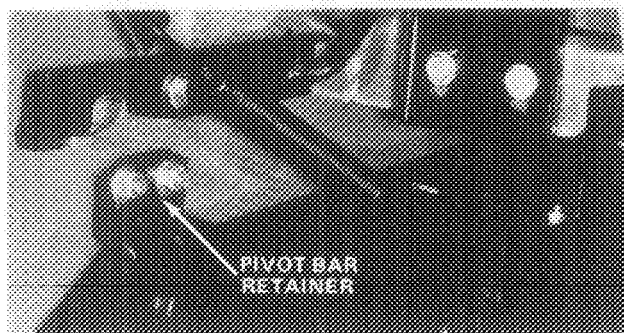

Figure 31
4. If blade tip height is not within 1/8 inch (3 mm), level cutting unit by loosening right hand pivot bar retainer hex nuts and raising or lowering the retainer (Fig. 31).